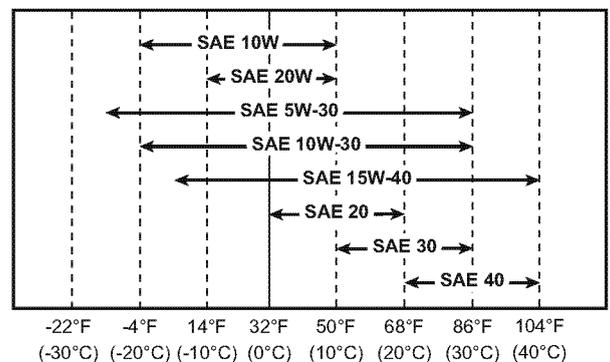

Figure 4-23
- Select the oil viscosity based on the ambient temperature where the engine is being operated. See the SAE service grade viscosity chart (Figure 4-23).
Select the appropriate engine oil viscosity based on the ambient temperature and use the SAE service grade viscosity chart in Figure 4-23.